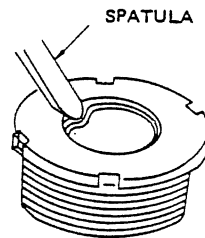

Fig. 5-32 Snap Ring Type
- (4) Remove U-ring (5) with the end of the spatula contacted the lip of the U-ring, deforming it inside of the cylinder head. (See Fig. 5-32)
- (5) Remove the nylon ring in the same manner as for the step seal.
- (6) Remove snap ring (8) with a metal spatula. (See Fig. 5-32).